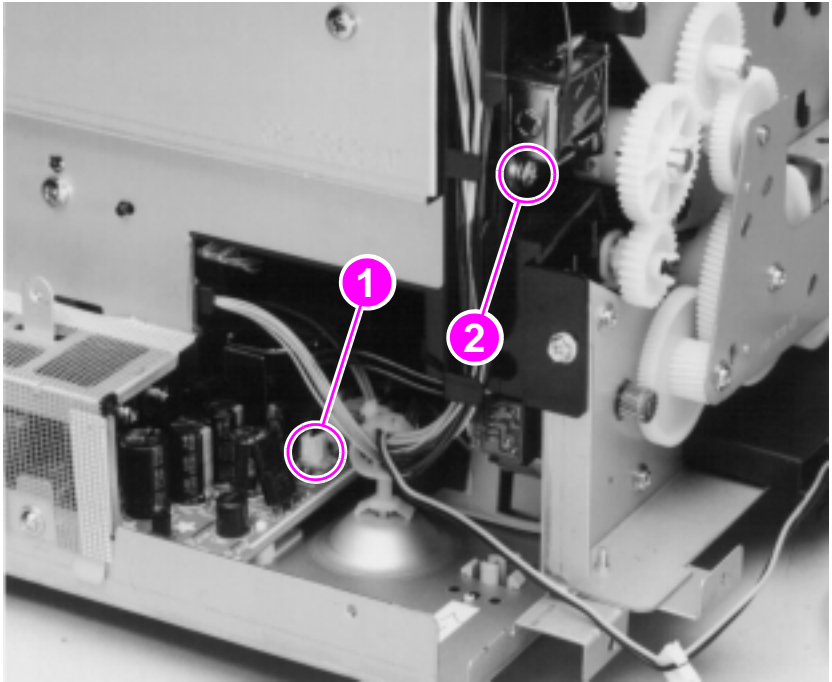

Figure 53. Solenoid removal (2 of 2)
- Solenoid from the ECU at J204 (see Figure 53, callout 1).